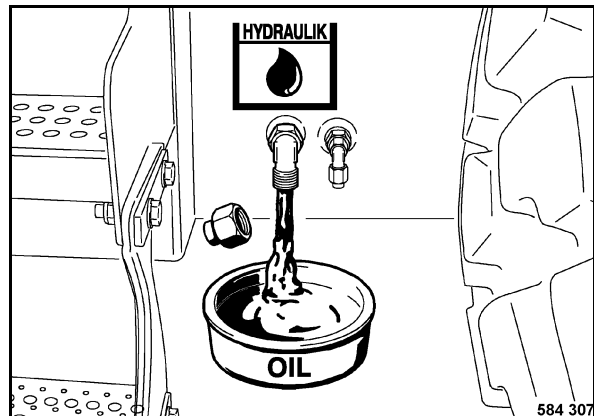

Fig. 174
- Unscrew the plug (Fig. 174) and drain off all hydraulic oil.